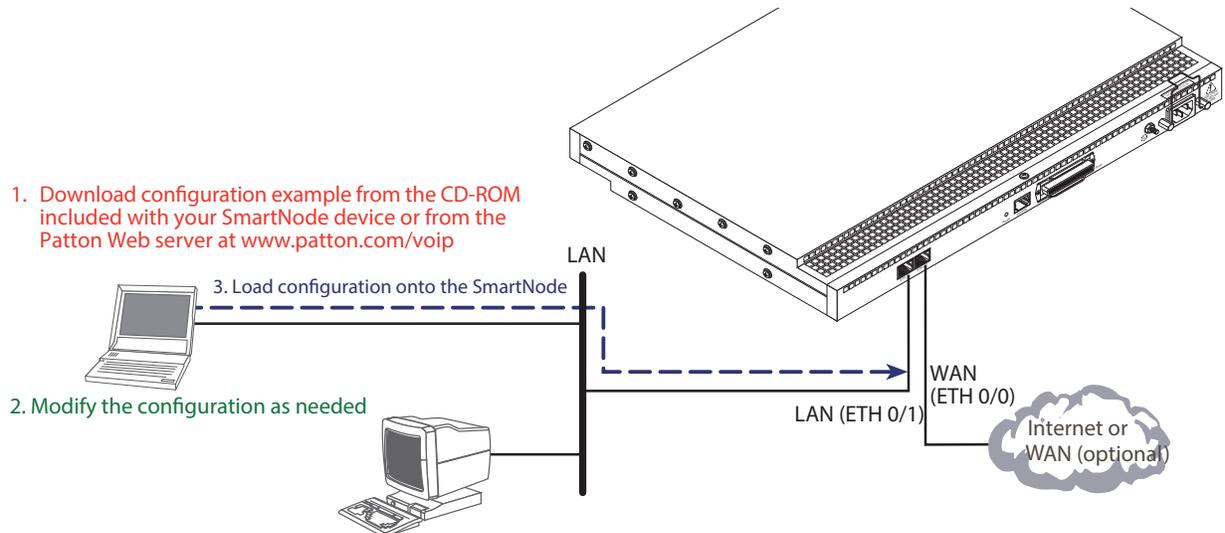

Figure 16. Loading the configuration
3. **Loading the configuration** (see figure 16). Refer to section “2. Connecting the SmartNode to the network” on page 40 for details.